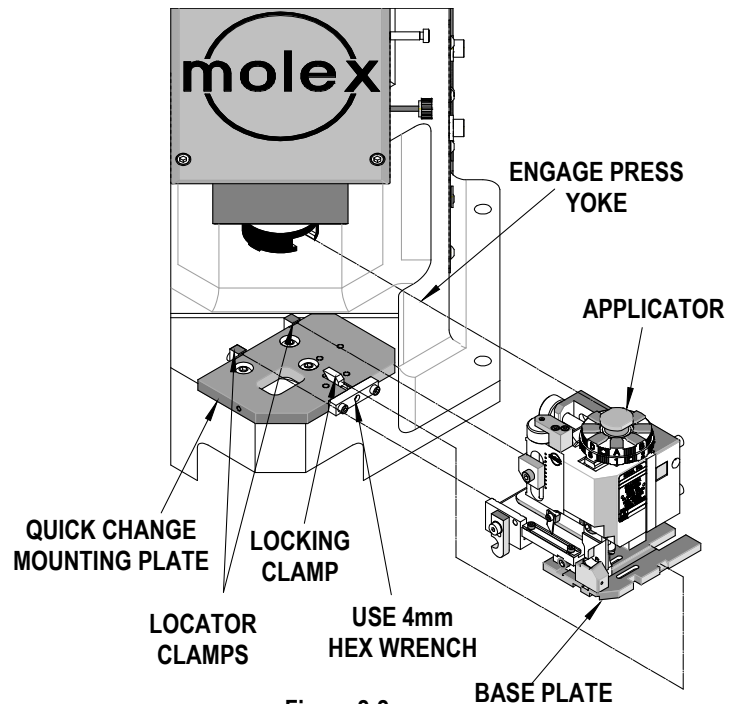

Figure 2-2
6. Slide the Mini-Mac Applicator onto the quick change mounting plate until the two notches on the left side engage against the stops, and at the same time, enter the lug bolt into the adapter on the press. See Figure 2-2.